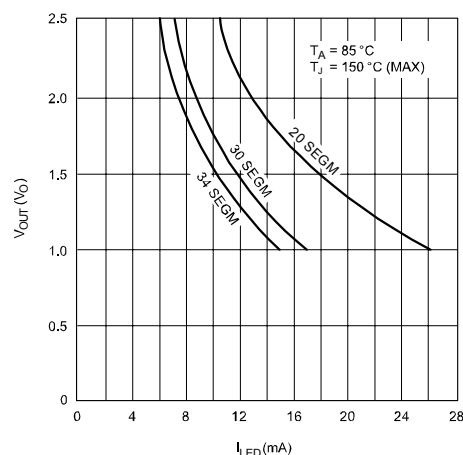

Figure 8.
- $V_{OUT}$  should be regulated by user. See Figures 8 and 9 for allowable  $V_{OUT}$  vs.  $I_{OUT}$  operation.